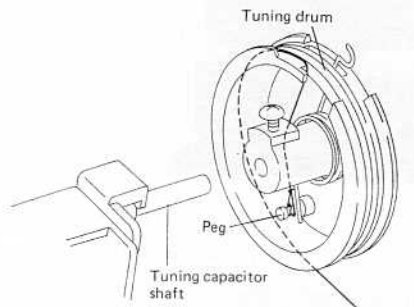

Fig. 4
3. Tie one end of the dial cord to the peg located on the inside of the tuning drum, and lead the cord out through the cut-out section (see Fig. 4).